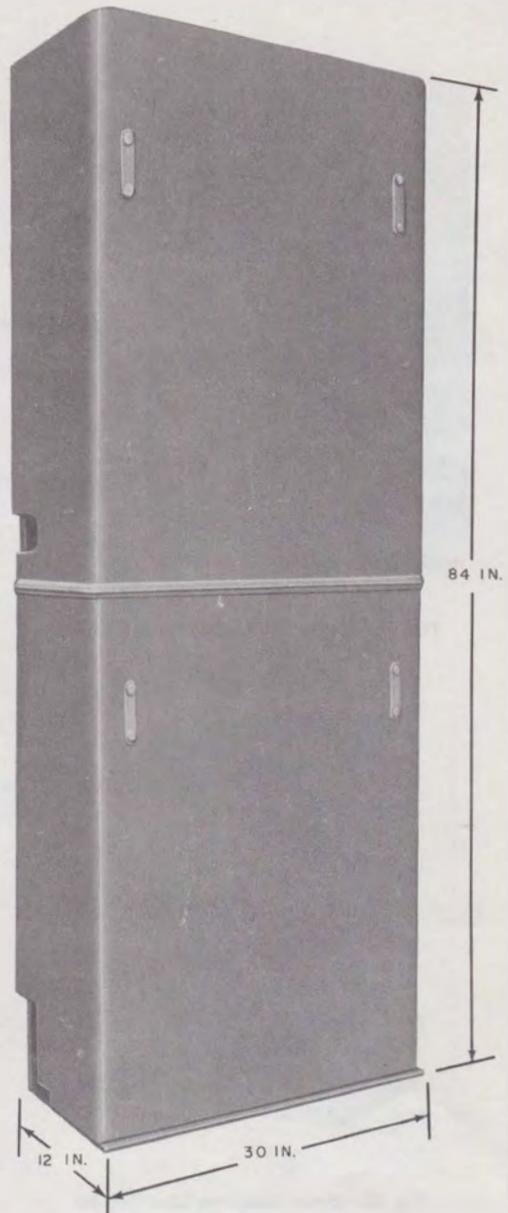

Fig. 30—Cover Per ED-69463-50, Group 6 (MD)
4.05 The cover per ED-69463-50, Group 6 (MD) (Fig. 30) is a matted fiber glass cover designed to enclose one ED-69463-50, Group 1 (MD) wall relay rack. The cover is shown as it appears when assembled. It is shipped as a flat panel with